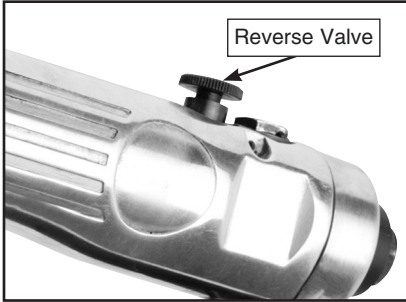

Figure 3. Location of reverse valve.
- Reverse the drill direction by pushing the reverse valve into the body, then rotate to lock into position (**Figure 3**).